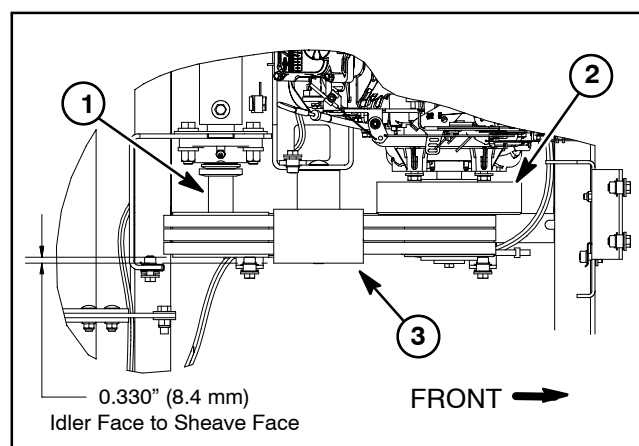

Figure 9
## Fuel Tank Removal (Fig. 9)
## Fuel Tank Installation (Fig. 9)
**IMPORTANT: After adjusting belt tension, check that distance from idler pulley face to the faces of the clutch drive pulley and jack shaft driven pulley is correct (Fig. 9). This distance is necessary to ensure that idler pulley is correctly aligned to drive belts. If necessary, either adjust position of engine on machine frame or the driven pulley on jack shaft (see Jack Shaft Assembly in the Service and Repairs section of Chapter 6 - Chassis) to allow correct distance.**